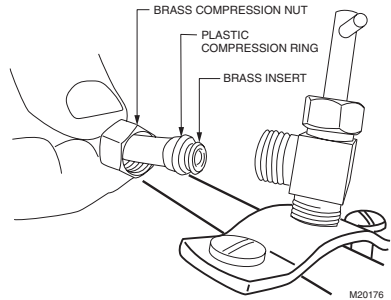

Fig. 7. Installing feed tubing.
4. Use 1/4 in. (6 mm) OD tubing and connect saddle valve to float valve (see Fig. 7).